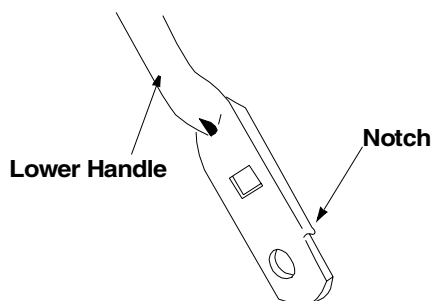

Figure 14
- Turn lower handle around so the notch on the bottom of the lower handle is facing forward. See Figure 14.